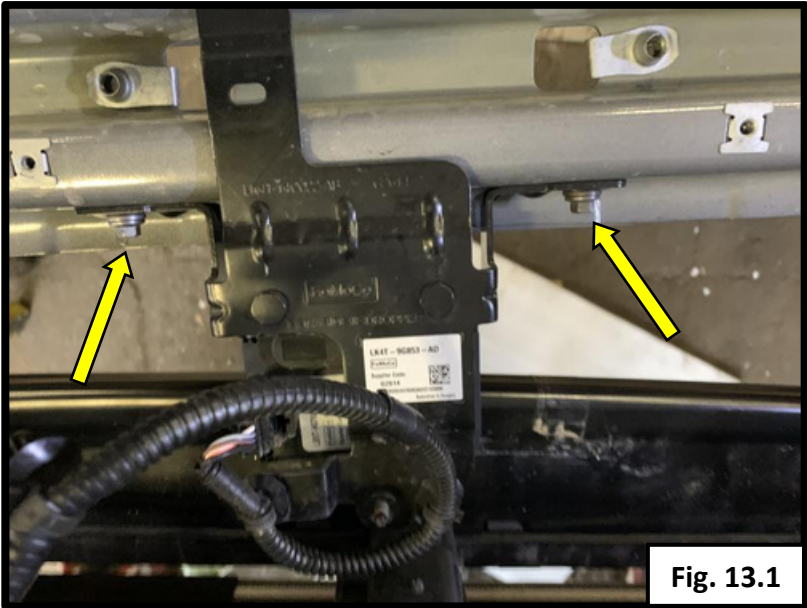

Fig. 13.1
- Use a T-25 Torx bit and 8mm socket to unbolt sensor attached to the upper cross member. See Fig.13.1